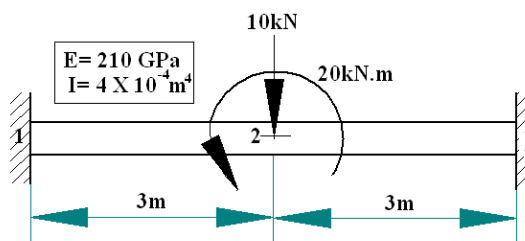

Figure 2
- 1B.** For the beam shown in Figure 2, determine the displacements and the slopes (05)